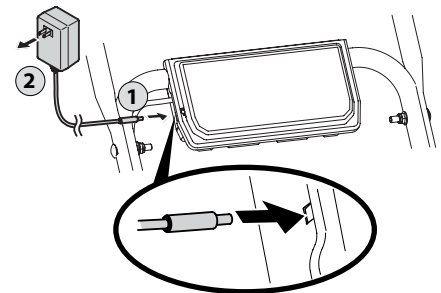

Figure 6-6
1. Unhinge the cover seal and plug the battery charger into the port on the side of the battery housing. See Figure 6-6.